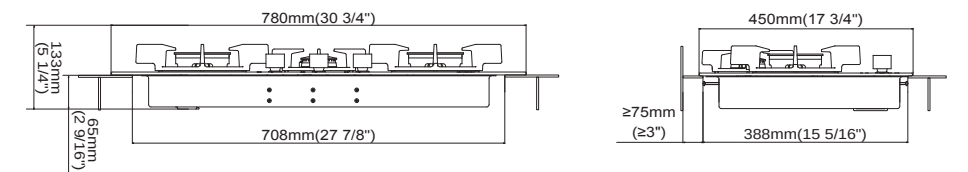

Fig.8
(1)Buckle the rubber hose button to the hose, then hitch the hose to stove's air intake joint, till the red mark, and tightly constrict the rubber hose button. (refer to Fig.8)
(2)Leak test: smear the joint part with tenuous and neutral cleanser(eg.soap subs), and open the general gas valve, if there is air bubble, please close the general gas valve soon, and repeat the action (1) and (2) until there is no air bubble.